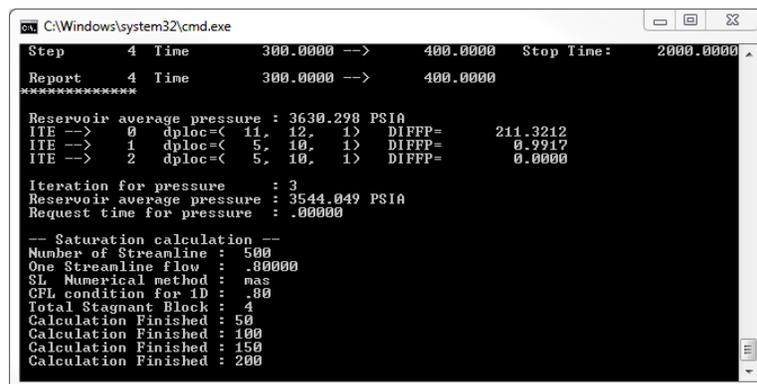

Figure 7: Simulation in Progress
6. Once modifications are complete (modified files need to be saved), the project is ready to be executed. For execution, Click **RUN** button (or the Speed Button with two running men). A DOS window will appear indicating progress of the simulation. (Figure 7). After successful completion of the execution, the DOS window will close with a message 'Successful Execution'.